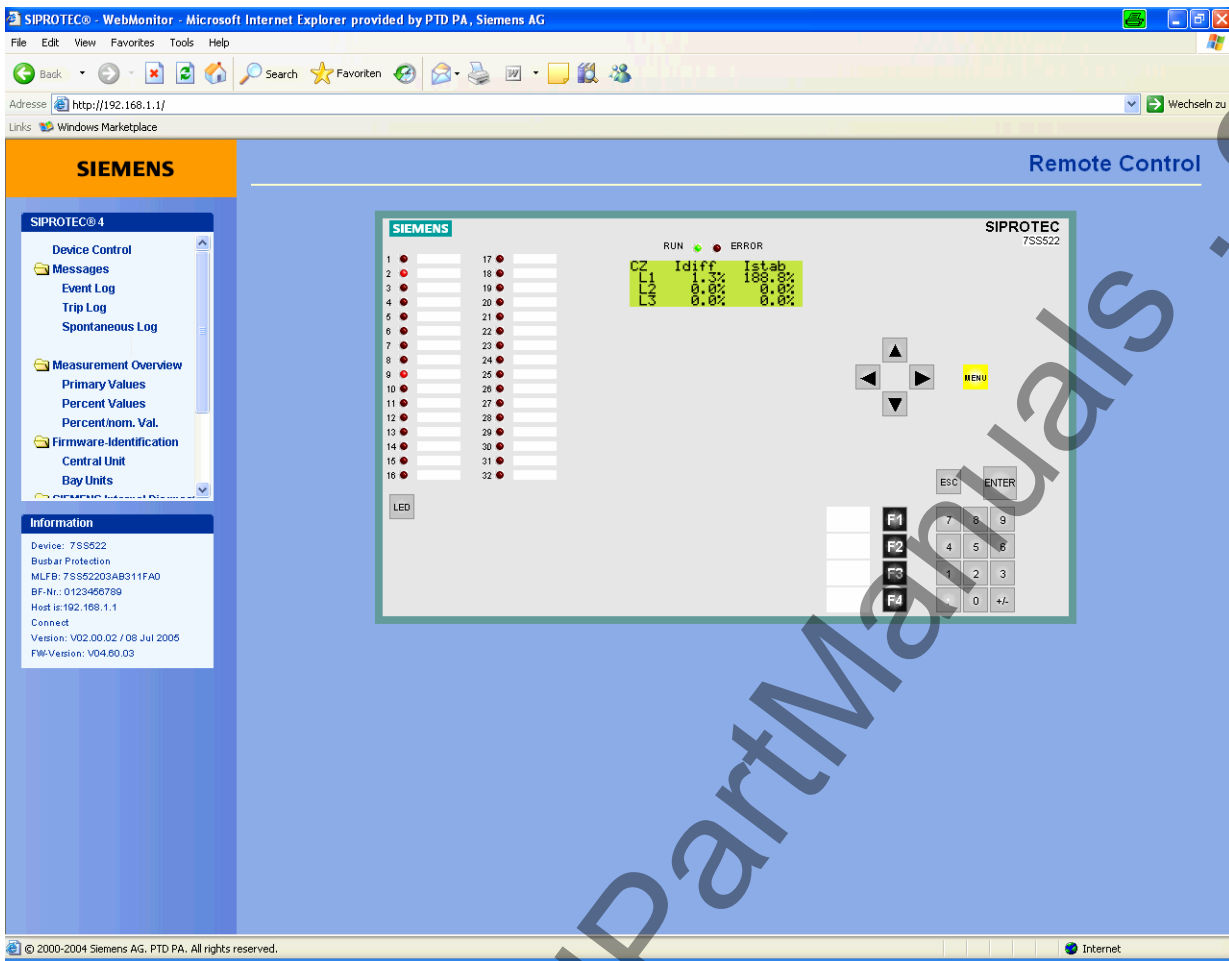

Figure 7-8 Remote control of the central unit
- remotely control the keyboard on the operator panel of the central unit (Figure 7-8, page 260)